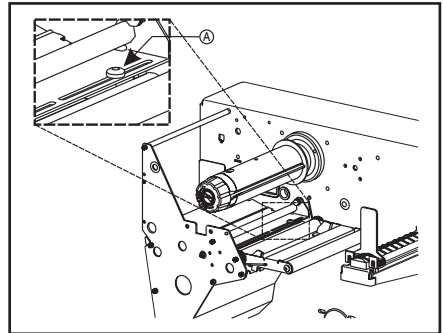

Figure 12
1. Remove the ribbon. Locate the Upper Media Sensor (Figure 12-A).